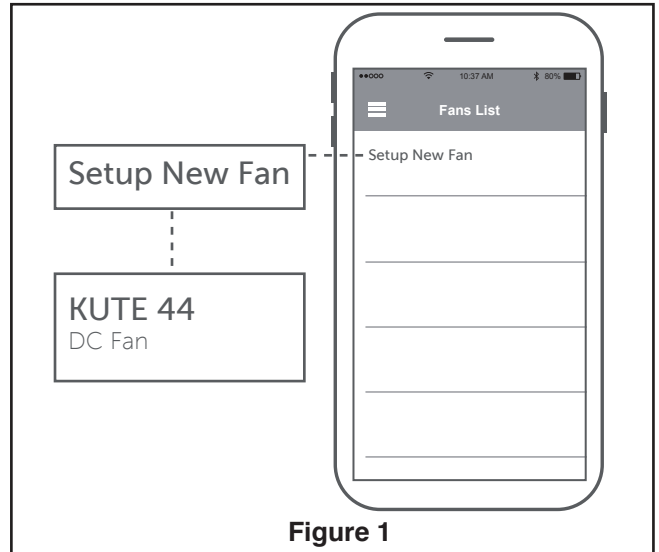

Figure 1
- 1. Open the fanSync app and tap Setup New Fan to begin setup. (Figure 1)
1. Installing Wall Holder: (Figure 1)